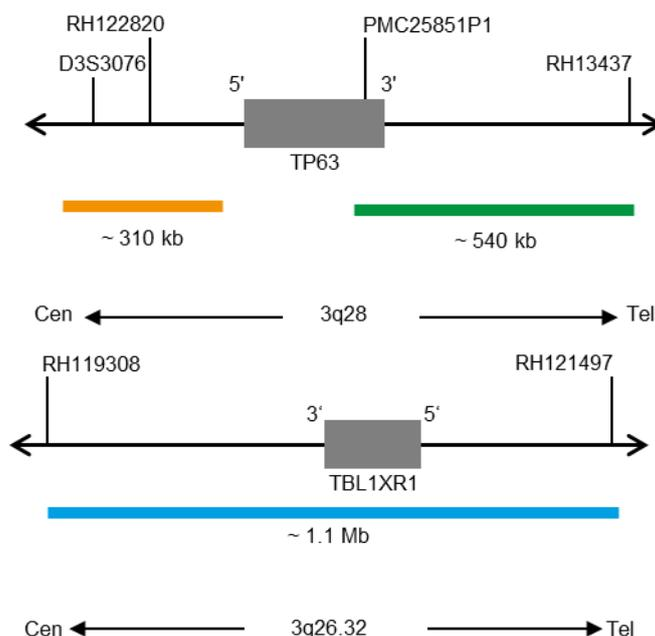

Fig. 1: Top: SPEC TP63 Probe map; Bottom: SPEC TBL1XR1 Probe map (not to scale)
- ZyGreen (excitation 503 nm/emission 528 nm) labeled polynucleotides (~10.0 ng/μl), which target sequences mapping in 3q28\* (chr3:189,559,557-190,097,196) distal to the TP63 breakpoint region (see Fig. 1).
- ZyOrange (excitation 547 nm/emission 572 nm) labeled polynucleotides (~4.5 ng/μl), which target sequences mapping in 3q28\* (chr3:188,995,562-189,305,431) proximal to the TP63 breakpoint region (see Fig. 1).
- ZyBlue (excitation 418 nm/emission 467 nm) labeled polynucleotides (~37.0 ng/μl), which target sequences mapping in 3q26.32\* (chr3:176,217,831-177,284,492) harboring the TBL1XR1 gene region (see Fig. 1).